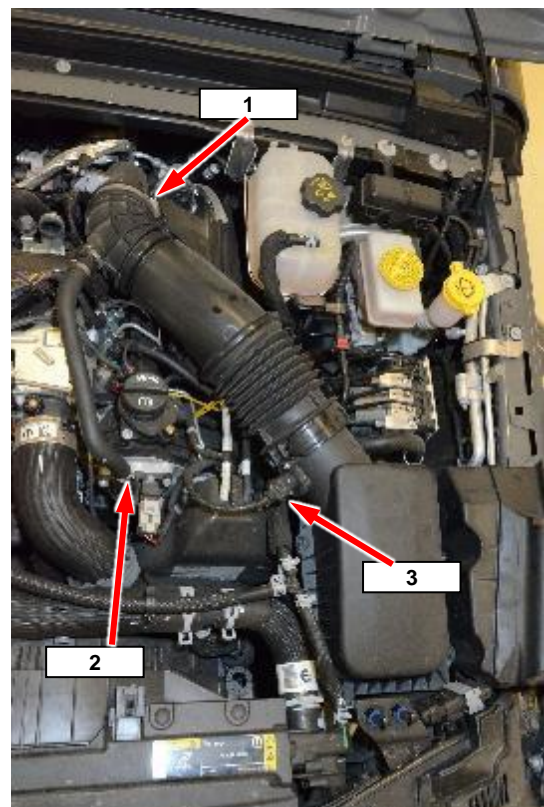

Figure 94 – Inlet Air Tube
7. Remove the clamp at the turbocharger air inlet elbow (1). Slide the CCV hose (2) off at the head. Disconnect the Mass Air Flow connector (3) (Figure 94).